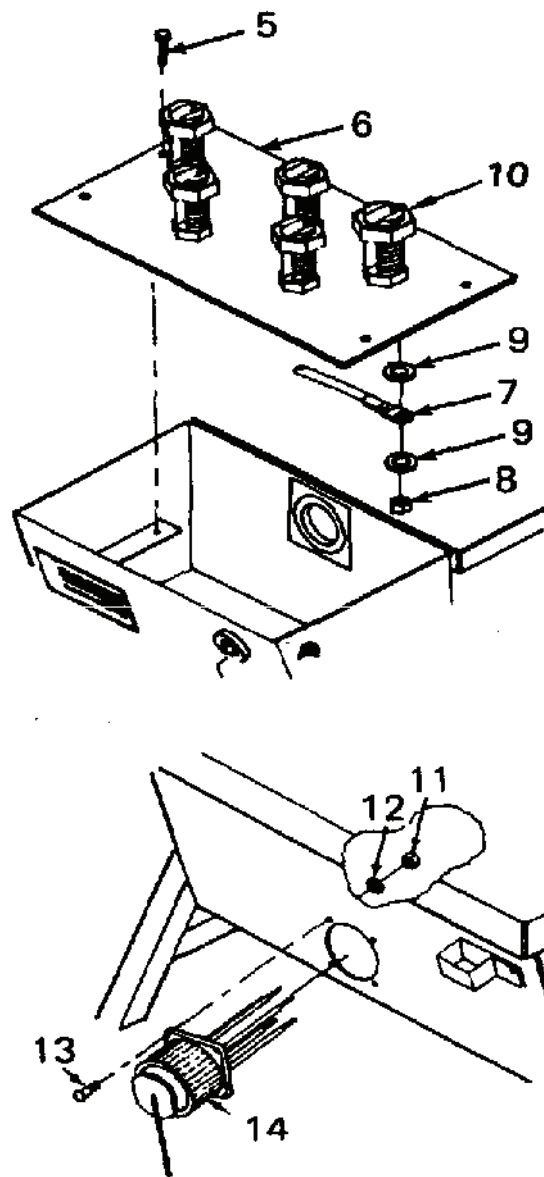

Figure 1. Input Connector and Mounting Board
2. Remove bolts (Figure 1, Item 5) securing terminal board (Item 6).
3. Remove terminal board (6) from universal adapter box.
4. Tag wires (7) according to the load terminal connection.
5. Remove nuts (8) and washers (9) and disconnect wires from bottom of load terminals (10).
6. Remove nuts (11), washers (12), and screws (13) securing input connector (14) to box and remove connector.
7. Insert input connector (14) through front of box and secure with nuts (11), washers (12), and screws (13).